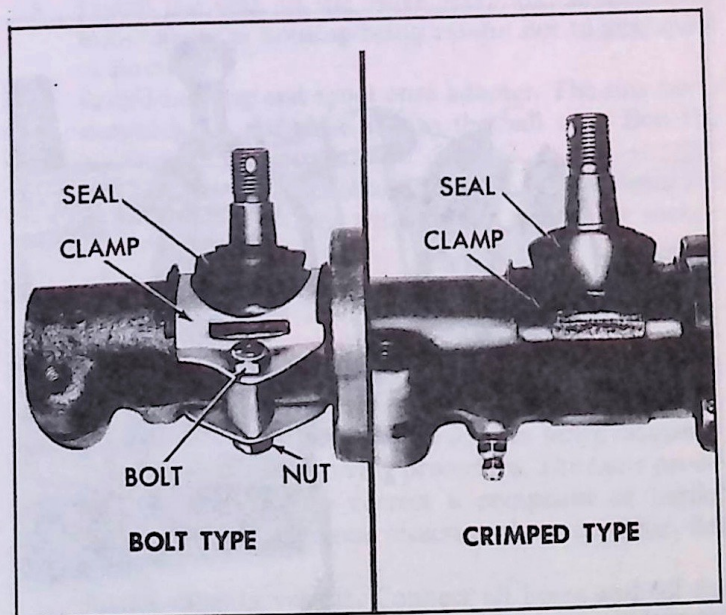

Fig. 66—Seal with Clamp Attachment
7. Remove clamp by removing nut, bolt and spacer or, if crimped type clamp is used, straighten clamp end and pull clamp and seal off end of stud (fig. 66).
4. Install new seal and clamp over stud so lips on seal mate with clamp. (A nut and bolt attachment type clamp replaces the crimped type for service fig. 66).